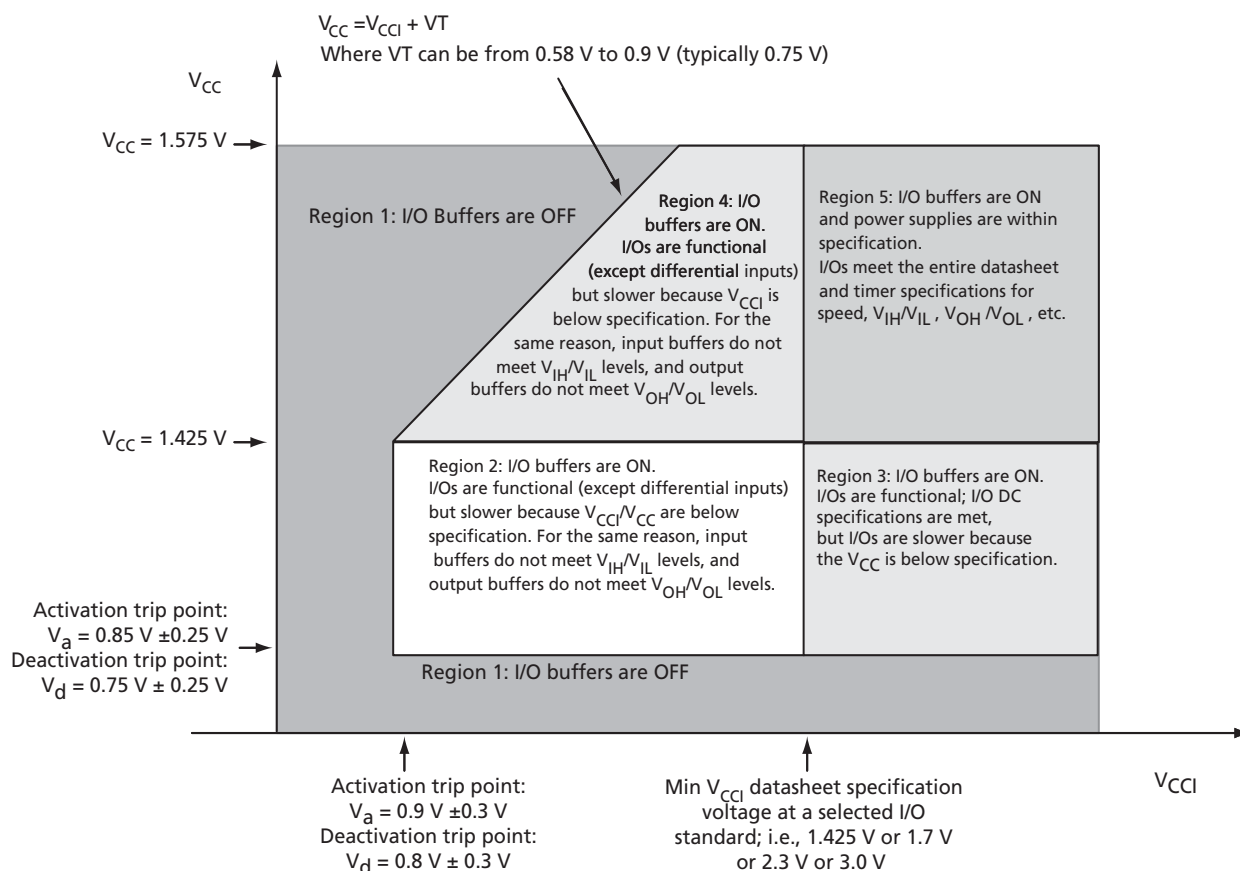

Figure 3-1 • I/O State as a Function of V_{CCI} and V_{CC} Voltage Levels
Sophisticated power-up management circuitry is designed into every ProASIC3E device. These circuits ensure easy transition from the powered-off state to the powered-up state of the device. The many different supplies can power-up in any sequence with minimized current spikes or surges. In addition, the I/O will be in a known state through the power-up sequence. The basic principle is shown in Figure 3-1.
1. V_{CC} and V_{CCI} are above the minimum specified trip points (Figure 3-1).